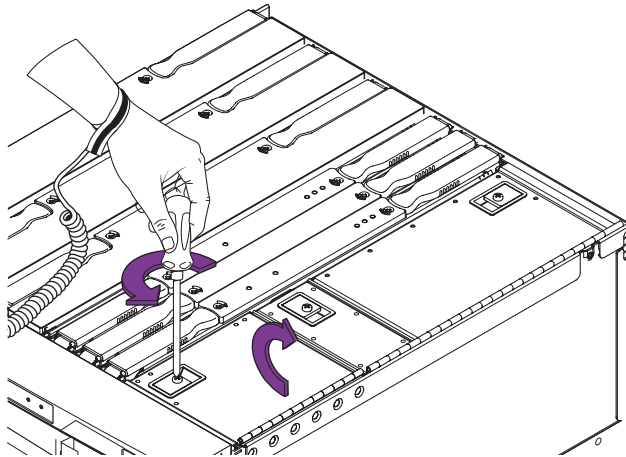

FIGURE 10-2 Opening the Media Bay Cover—System Top View
8. At the top of the system, open the media bay cover (FIGURE 10-2).